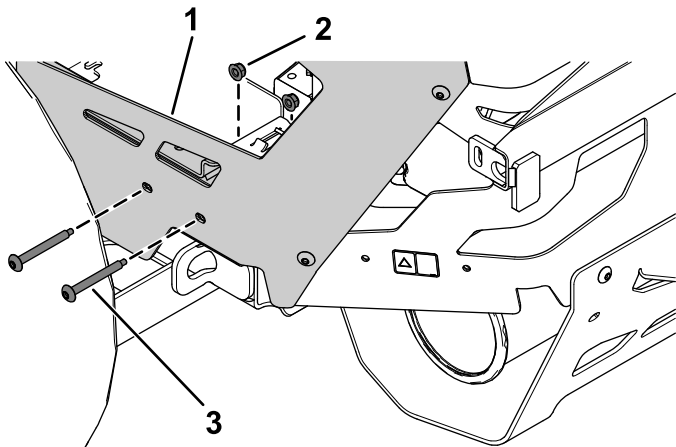

Figure 8
- Remove the 2 torx-head bolts and 2 nuts from the left, rear guard (Figure 8).